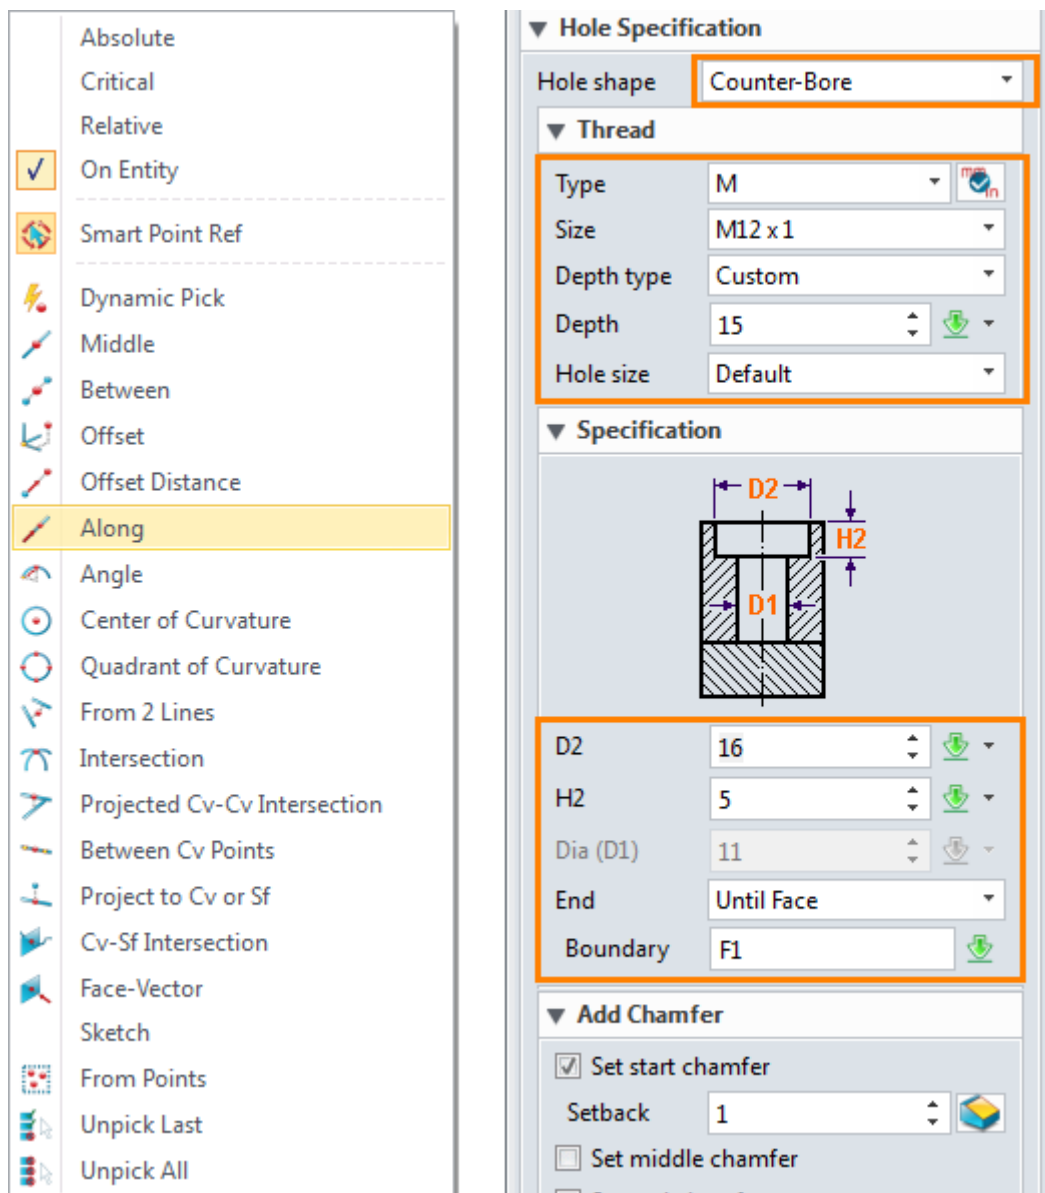

Figure53 Hole Specification
STEP 02 Pick points as the hole locations. The default direction of the hole feature will be perpendicular to the face where is the point. From the right menu, many different ways of picking points are available. See the left image of Figure53.
1. Directly pick multi points to define location option. The left image of Figure53 shows the right menu during the point picking.